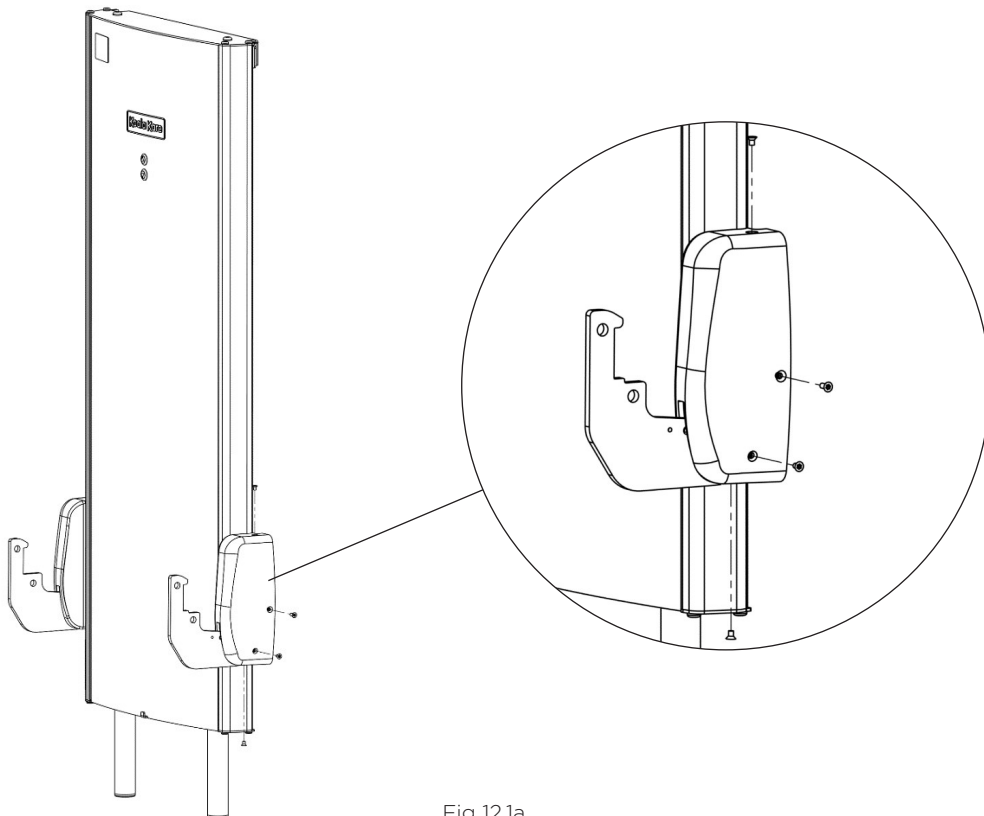

Fig 12.1a
- Remove the four security fixings from each of the gas spring covers, as shown in Fig 12.1a. Take note the upper most horizontal screw is a different size and has a hidden spacer inside the cover.